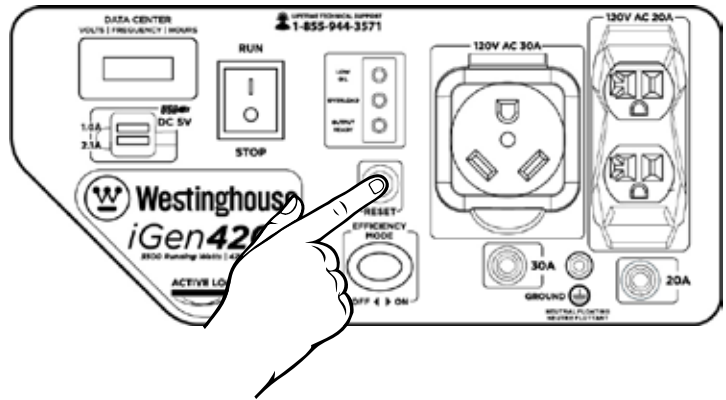

Figure 7: Press in reset breaker
3. Press in the reset breaker to reset it (see Figure 7).